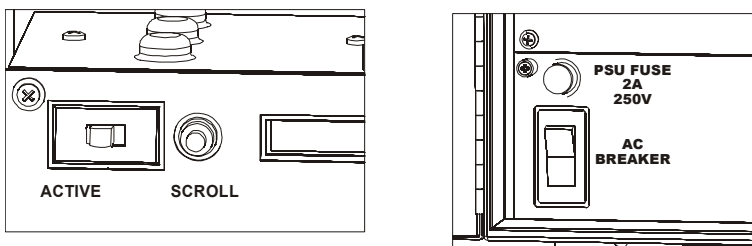

Figure 4.10 ARU Mode Switch, Scroll Push button and Circuit Breaker/Power Switch
2. Set the ARU Mode switch to INSTALL mode (right position - opposite of ACTIVE). Energize the AC power cable feeding the ARU, and set the ARU circuit breaker to the closed (ON) position - see Figure 4.10.